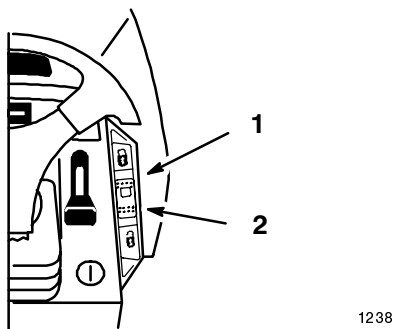

Figure 15
A three position switch, located on the dash (Fig.15), with the functions of: Lock-Set (spring loaded), On and Unlock-Off controls the engagement. Cruise control maintains the traction control position without foot pressure. Cruise control is intended for operation in the forward direction only. Do not use cruise control in reverse.
1. Begin driving tractor: Refer to Driving Forward or Backward, Page 16. While holding your foot steady on the traction control, push the cruise control switch (Fig. 15) to the "Lock-Set" position.
1. While holding your foot steady on the traction control, move the cruise control switch (Fig. 15) to the "Unlock-Off" position.